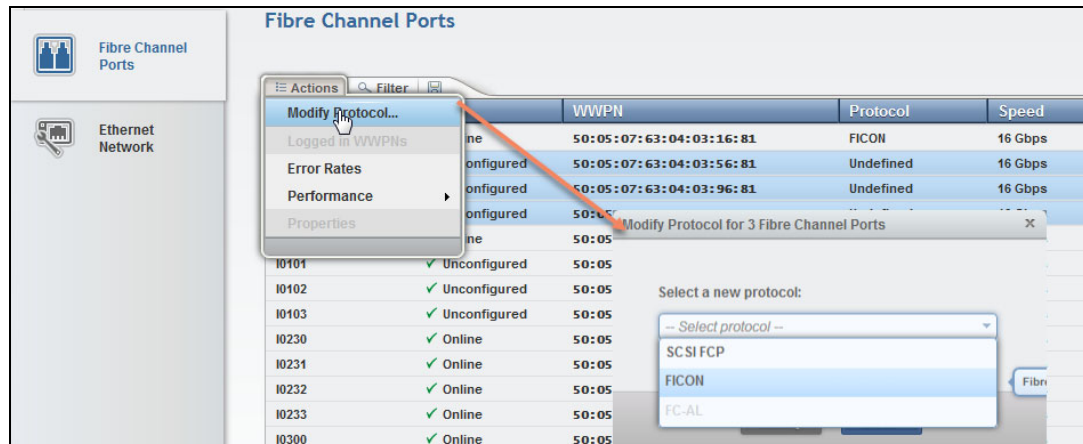

Figure 11-110 Modify Fibre Channel port protocols
4. Click **Modify** to set the topology for the selected fibre channel ports as shown in Figure 11-110.